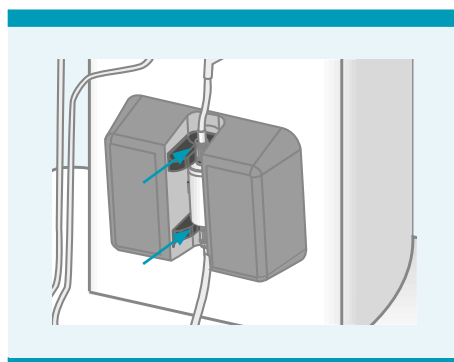

Figure 7.14: Separation column in separation column holder
3. Insert the separation column into the separation column holder (see Figure 7.14).